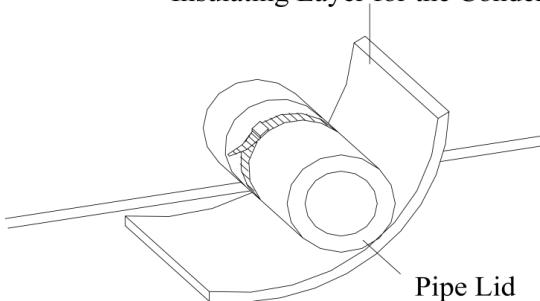

Fig.13 Thermal Insulation of the Condensate Pipe
a. The condensate pipe should keep a inclination angle of $5\sim 10^\circ$, which can facilitate the drainage of the condensate water. And the joints of the condensate pipe should be insulated by the insulation material to prevent condensing(see Fig.13).